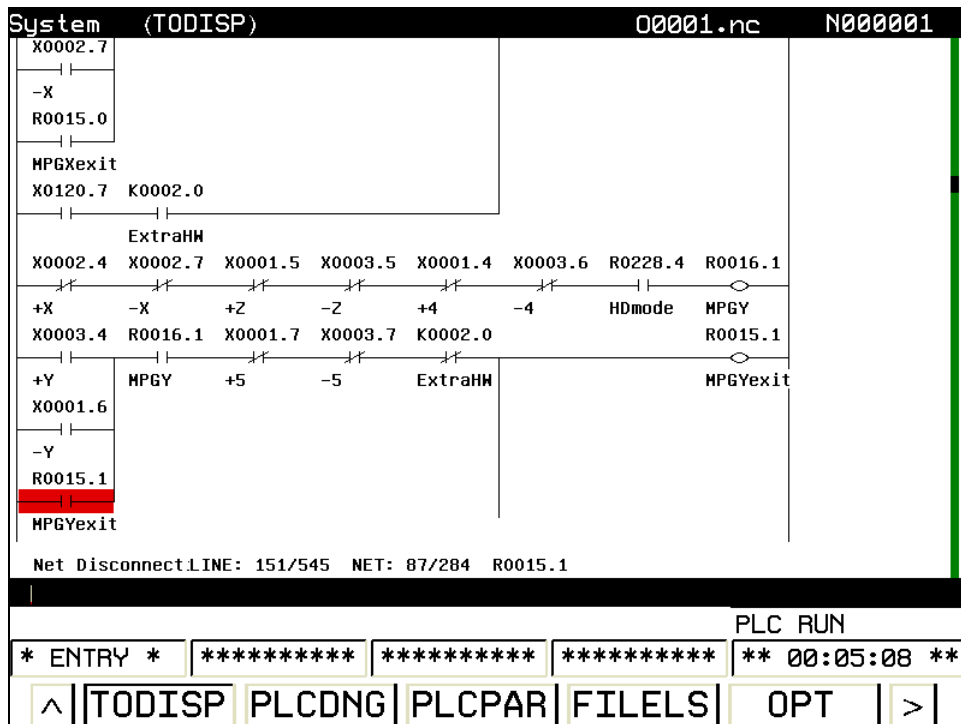

Fig. 3-42
- b. After the display format is set, select the [Integrated display], and then the [Operation] to enter an editing and modification interface of the ladder diagram. (Refer to the figure 3-42)